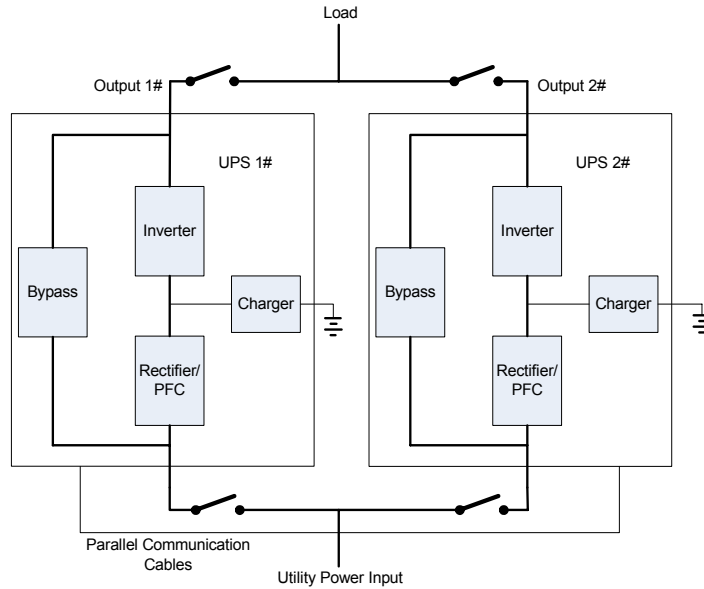

Fig 7. Parallel Installation Diagram
**Notice:** close output 1# breaker and 2# breaker as fig.7 to make sure that output of every UPS are shorted before starting UPS, or else the parallel system will fail to start.